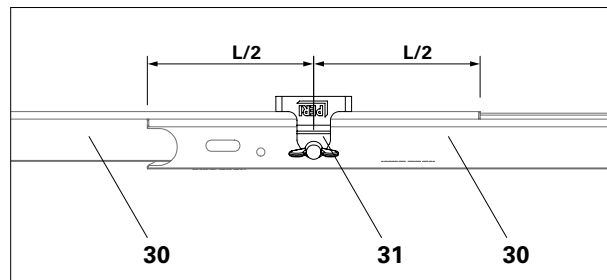

Fig. A5.06
With the Toeboard Compensation UPY-L (31) and two Toeboards UPY (30), it is possible to fit a toe board that is continuously adjustable in terms of its length. (Fig. A5.06)